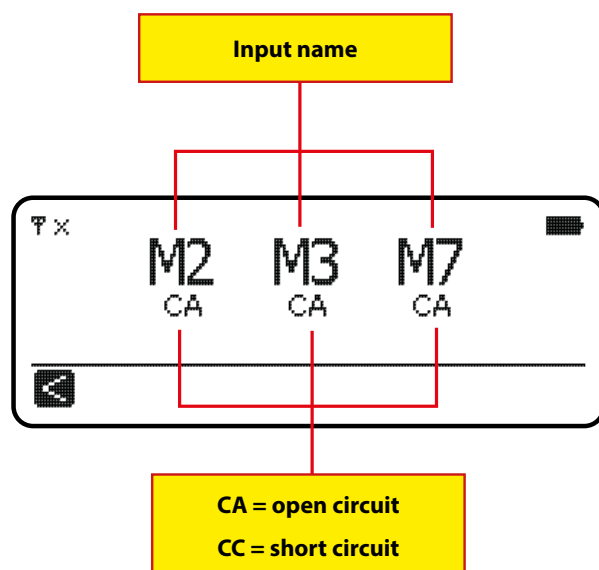

Fig. 31
- In the connectors, close the input to ground and check that the status changes on the display (Fig. 31);